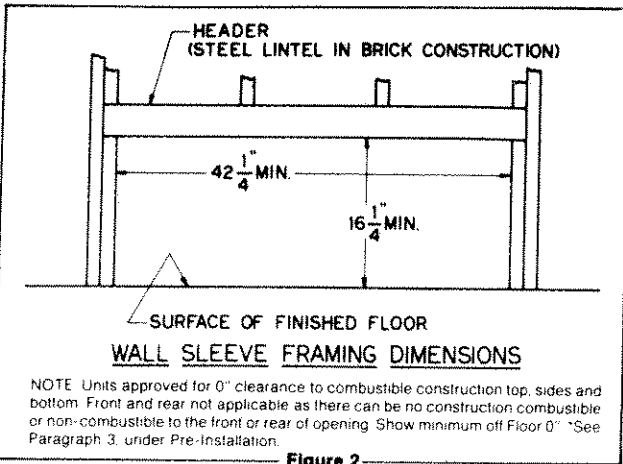
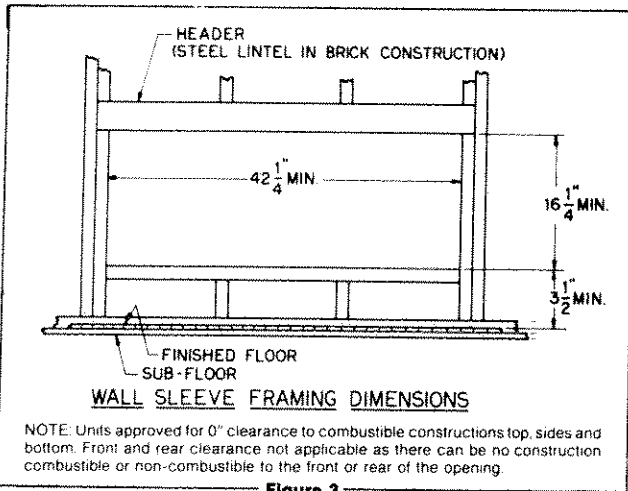
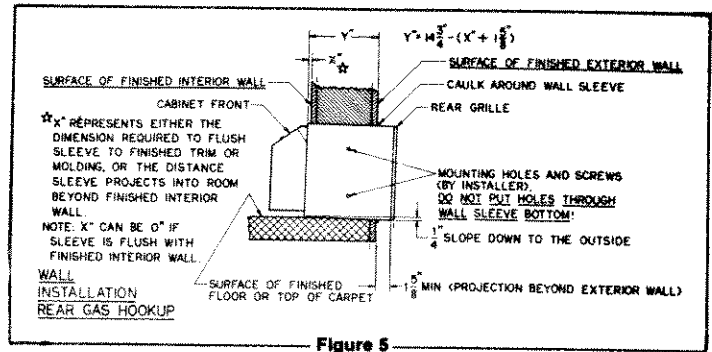
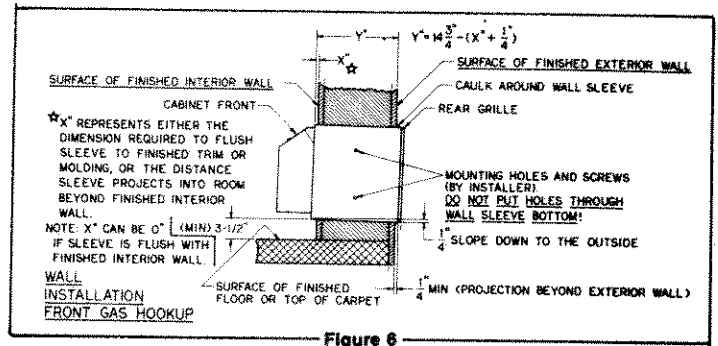

Figure 2
Figure 3
Figure 5
Figure 6
The Dynaline II is designed for a wall thickness of 1" minimum to 14-1/2" maximum. NOTE: Maximum wall thickness cannot exceed 12-5/8" if rear gas hook-up is to be used. The wall sleeves must be installed as illustrated in Figures 5 or 6 so that the DL II unit chassis when slid into the sleeve is vented to the outside atmosphere.
3. The wall sleeve may be installed directly on finished floor as illustrated in Figure 2; however, considerations should be given to the location of gas lines and electrical service. NOTE: If mounted on top of floor, the gas connection should be made from rear of unit. For the best finished results, Suburban suggests the wall sleeve be mounted a minimum of 3-1/2" off of the finished floor, as illustrated in Figure 3. This allows sufficient space for the gas and electrical connections to be made below the wall case. An accessory base panel, Suburban Kit #520601, may then be attached to the cabinet front to conceal these service connections. NOTE: This base panel is non-loading bearing.
5. The installer should allow for drywall or other interior wall finishes when locating sleeve during rough-in. (See Figures 5 or 6.)
1. Cut an opening in the outside wall and frame to the minimum opening as illustrated in Figures 2 or 3. Refer to Table 1 for minimum clearances to obstruction. Use conventional construction methods to frame opening. **Do not use wall sleeve as a lintel.** The framed opening should allow for the sloping of the sleeve toward outside wall as illustrated in Figures 5 or 6, in order to assure proper drainage. **Do not install wall sleeve level or slope toward room.**
3. Install wall sleeve into framed opening with the three drain holes to the outside. Minimum projection of wall sleeve into the room is flush with finished wall or molding, as illustrated by "x" dimension in Figures 5 or 6.
If sleeve installed with floor clearance from 0" to less than 3-1/2", the sleeve must protrude a minimum of 1-5/8" beyond finished surface of exterior wall. (See Figure 5.) This is to allow for rear gas hook-up. If sleeve is installed with floor clearance of 3-1/2" or greater, the sleeve must protrude a minimum of 1/4" beyond finished surface of exterior wall. (See Figure 6.)
4. Secure wall sleeve to wall as illustrated in Figures 5 or 6. Be sure wall case is level (side to side-parallel to floor) and sloped 1/4" from front to rear. **Do not put holes in bottom of sleeve, water damage to wall and floor will occur.**
5. Caulk around wall sleeve between the sleeve and building to form a weather tight seal against rain and snow. **Use only weather proof caulking.** (See Figures 5 or 6.)